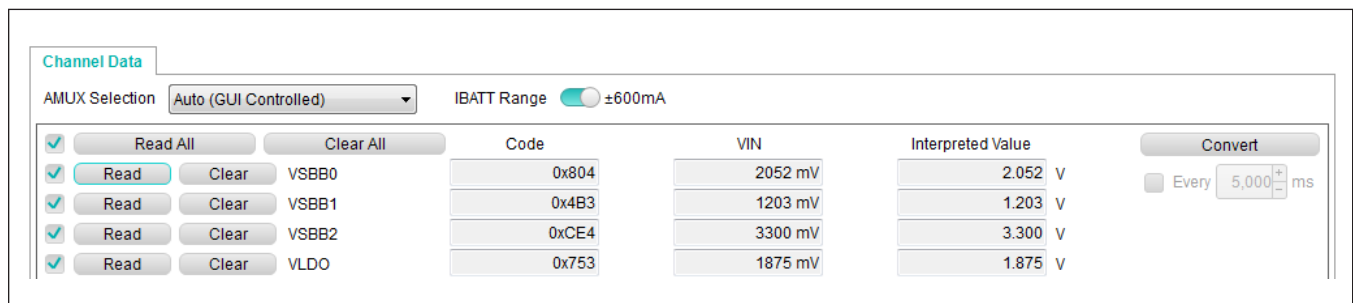

Figure 5. Quick Start: Regulator Check with the ADC
- 7) On the **AMUX/ADC** tab of the GUI, click the **Read** buttons next to VSBB0, VSBB1, VSBB2, and VLDO. For the MAX77650A, 2.05V, 1.2V, 3.3V, and 1.85V, respectively, appear (Figure 5). For the MAX77651B, 1.9V, 3.2V, 0V, and 0V, respectively, appear.